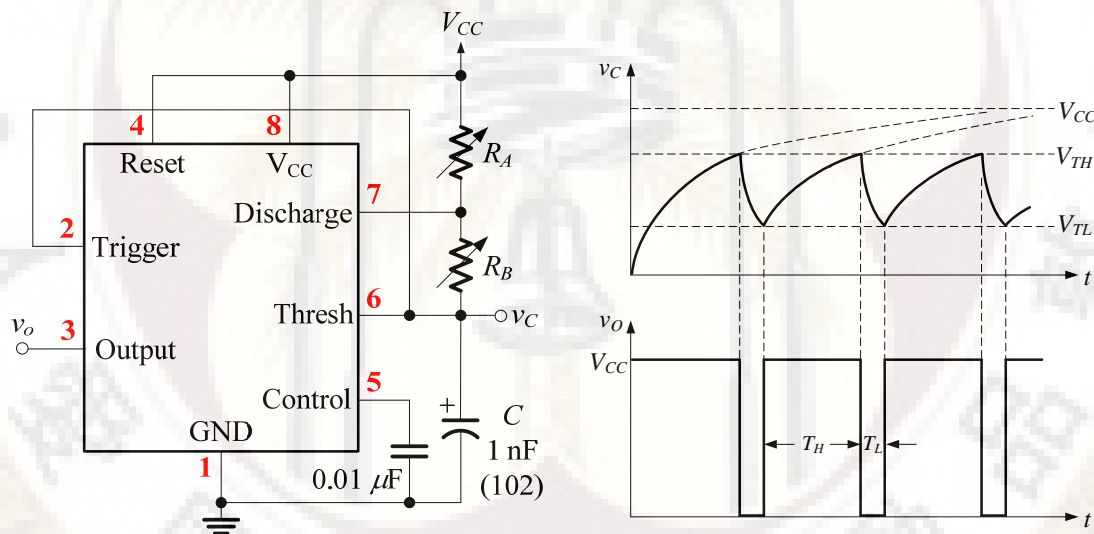

Fig. 6 An astable multivibrator using the LM555 IC
- (1) In Fig. 6, supply voltage $V_{CC} = +5V$. Apply the values of R_A , R_B , and C designed in the Pre-Lab work to the circuit.
- (2) Or you can directly use $C = 1\ nF$, $10K\Omega$ VR for R_A and R_B .
- (3) Adjust R_A and R_B to fulfill the condition of $f_0 = 100\ kHz$, Duty cycle = 90% and $T_L = 1\ \mu s$.
- (4) Attach CH1 and CH2 probes of oscilloscope to pin 3 and pin 6, respectively, and observe the measured waveform in CH1 and CH2.
- (5) Use the **Cursors** menu button to measure and record the value of $T_L = \underline{\hspace{2cm}}$ μs , Duty cycle = $\underline{\hspace{2cm}}$ %.